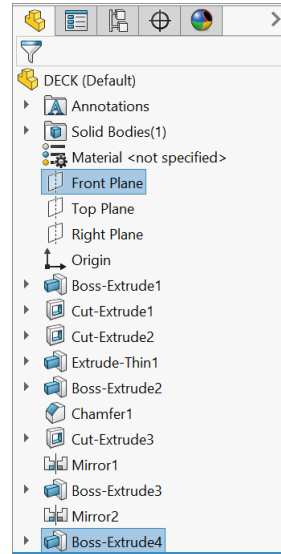

Fig. 74
Step 1. Ctrl click **Front Plane** and **Boss-Extrude4** feature to select plane and feature, **Fig. 74**.